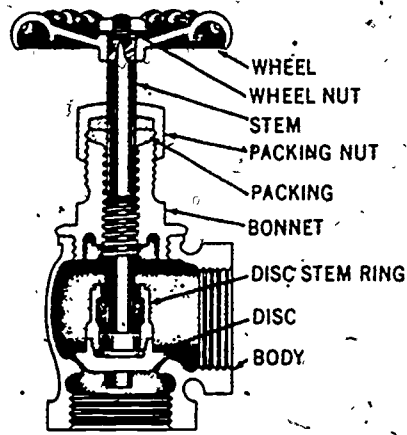

Figure 68
**VALVES.** Leaking valves and faucets are not only irritating but contribute to water waste. Repair may require tightening of a packing nut or replacing internal parts, see figure 68.